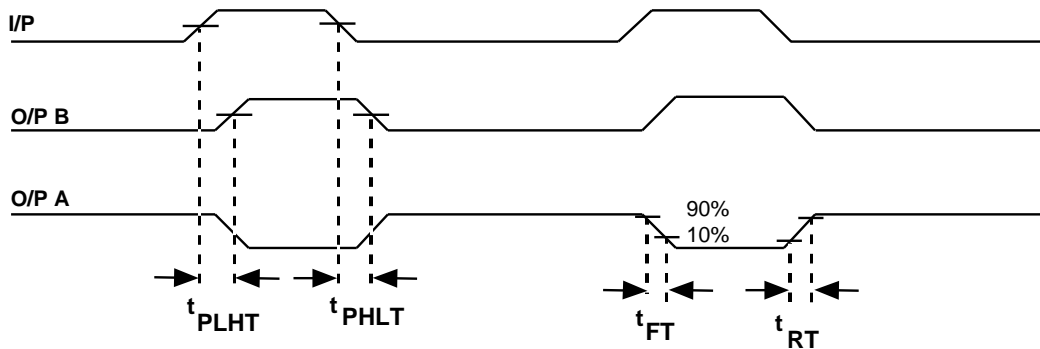

Figure 3. Transmitter Waveforms
**Test Conditions:**  $V_{CC} = 5V \pm 5\%$ ,  $V_{EE} = -5V \pm 5\%$ ,  $T_A = 0^\circ\text{C}$  to  $70^\circ\text{C}$  (see figure 3)